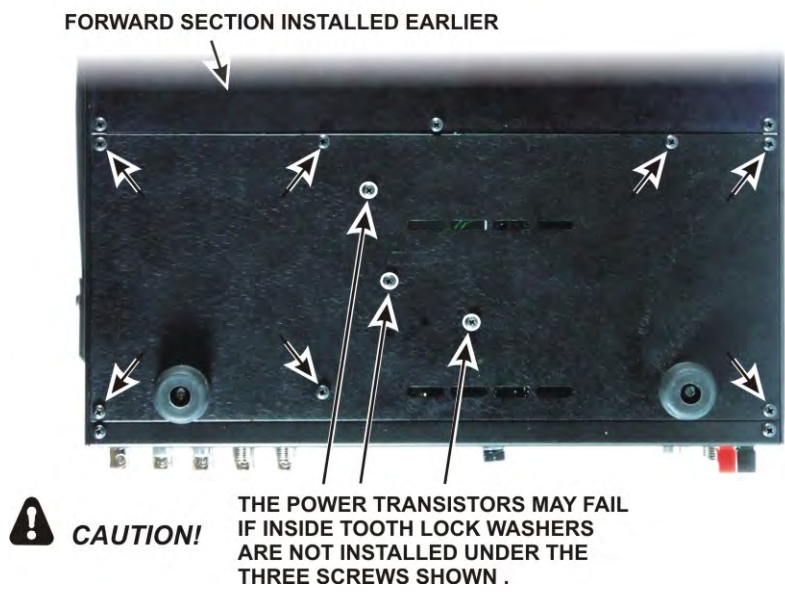

Figure 93. Checking Power Transistor Mounting Hardware.
- Install the rear bottom cover section as follows (see Figure 93):
- Start three 4-/40 1/4" (6.4 mm) black pan head screws (SS) into the transistors through the holes near the center with a #4 inside tooth lock washer under each screw head. Do not tighten the screws yet.
- Start seven 4-40 3/16" (4.8 mm) black pan head screws (SS) into the remaining holes. Do not use washers.
- Inspect the bottom cover screws to ensure you have inside tooth lock washers under the three screws shown in Figure 93. **Be sure all three screws are tight.**